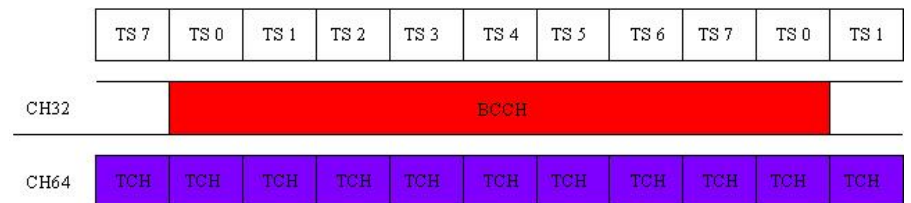

Fig. 4 - Downlink with option B95
- If the auxiliary generator is available, a permanent BCCH is generated and channel change and dual-band handover are possible (Fig. 4).